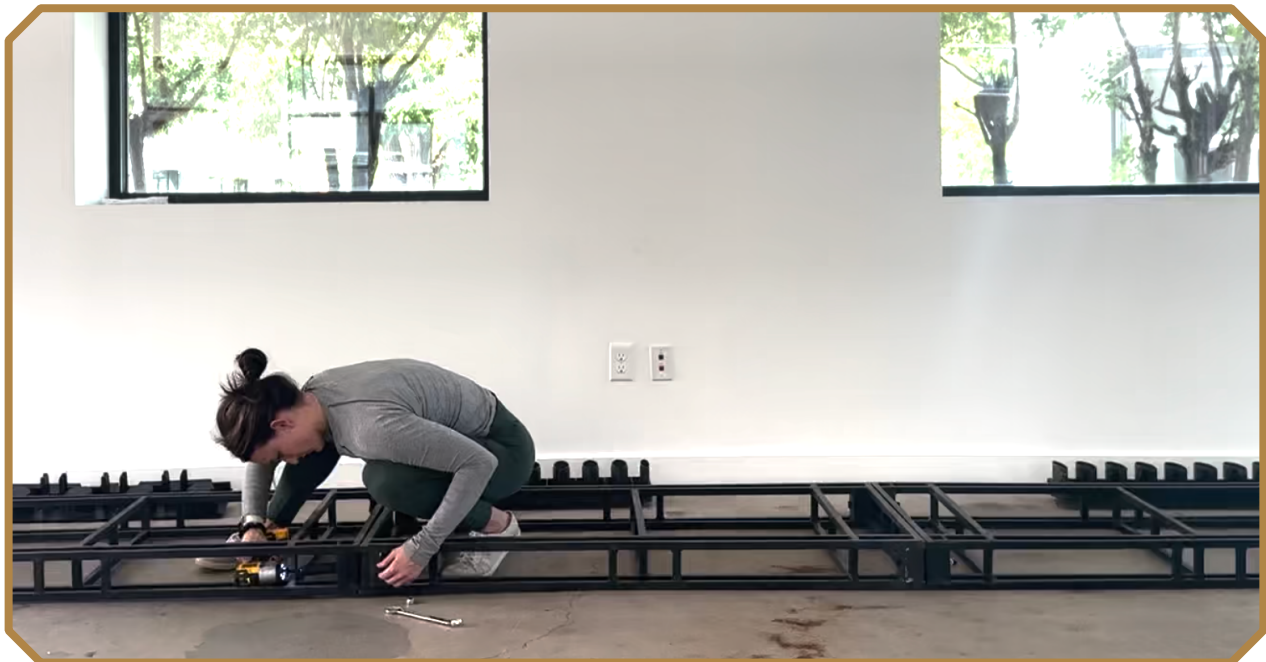

Figure 1
2. Disassemble your pallets using the wrench and the impact driver (Figure 1).